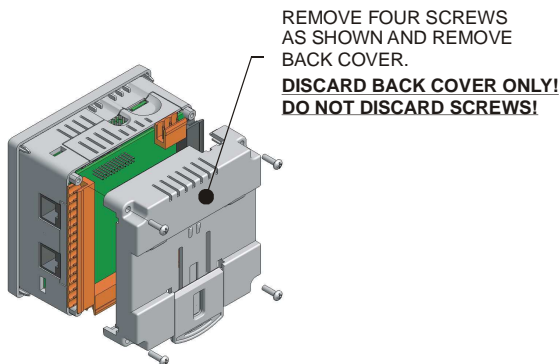

Figure 1 - Removing Back Cover of the XLE
- Remove the four screws on the back of the XLe unit and remove the back cover. The back cover can be discarded or saved, but it will be replaced with the extended back cover that ships with the communication add-on. Screws are re-used (Figure 1).